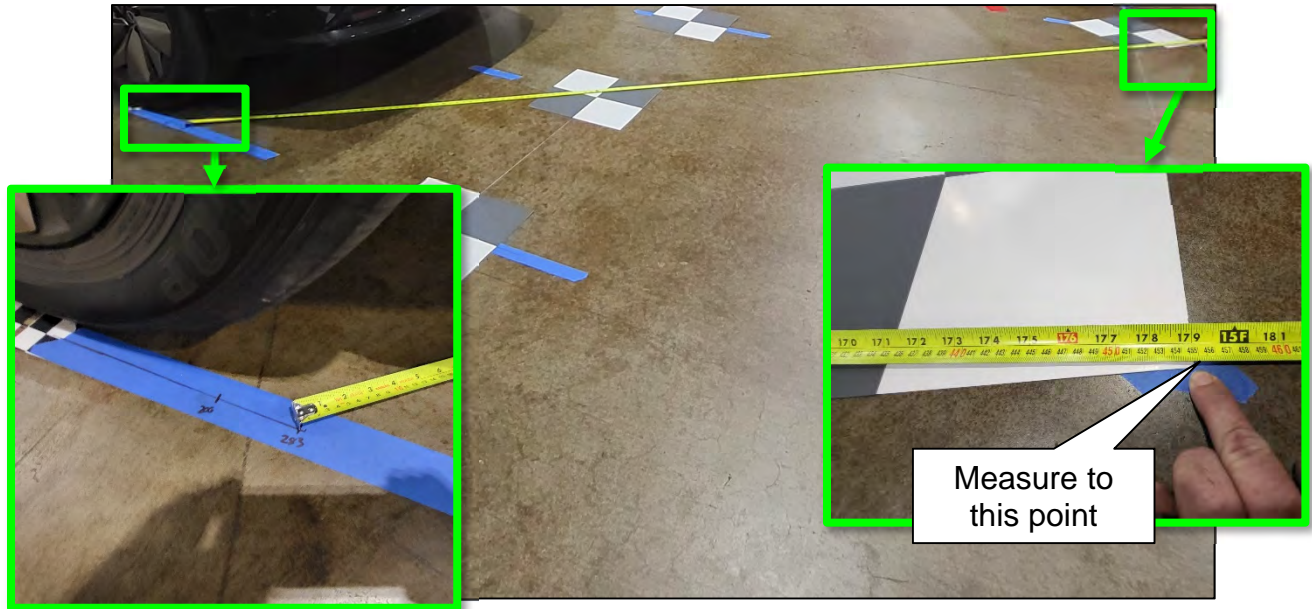

Figure 107
**IMPORTANT:** Do not measure to the center point of the target. Measure to the point shown in Figure 107.